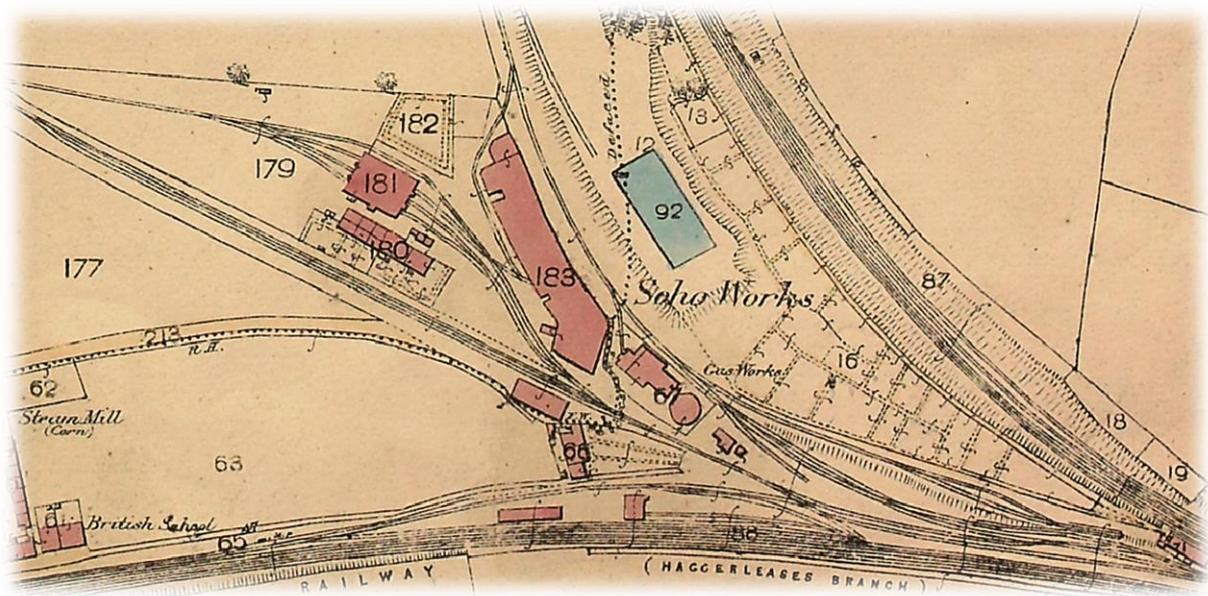

Figure 2. The 1st ed OS map dating to 1855 showing the extent of the Soho Works by that time, and the gas works.
- 🏠 On the left there is a path heading uphill towards the Black Boy Branch Line (cycling not permitted on this path). In 1852 a reservoir was built above the Soho Works (see figure 2) at the top of this hill by the S&DR and Timothy Hackworth (junior) wrote to his sister in Brussels where she was being educated: